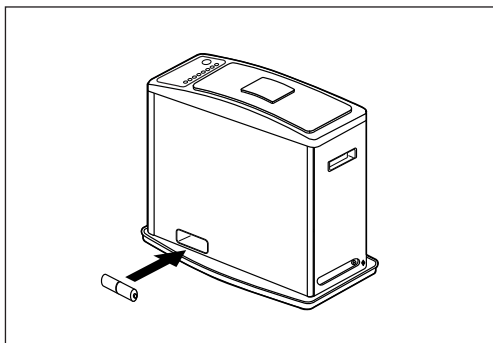
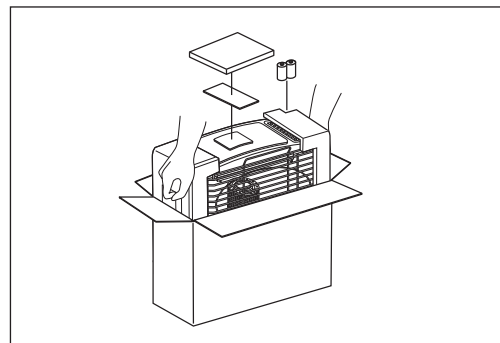

Fig. 12
Fig. 13
Carefully following the instructions for storage given below will insure that your heater will operate efficiently and safely next season (Fig. 12/Fig. 13).
- Remove the batteries (Fig.12) from the battery case before storing the heater to prevent leakage and corrosion. Remove the 5 cabinet screws and lift off the cabinet and grille assembly. Remove the burner. Remove the wick adjuster from the fuel reservoir. **Thoroughly** dry the Inside of the fuel tank. Using a screwdriver and/or a brush, remove any carbon, tar or soot that might have accumulated on the wick adjuster, wick guide or burner.